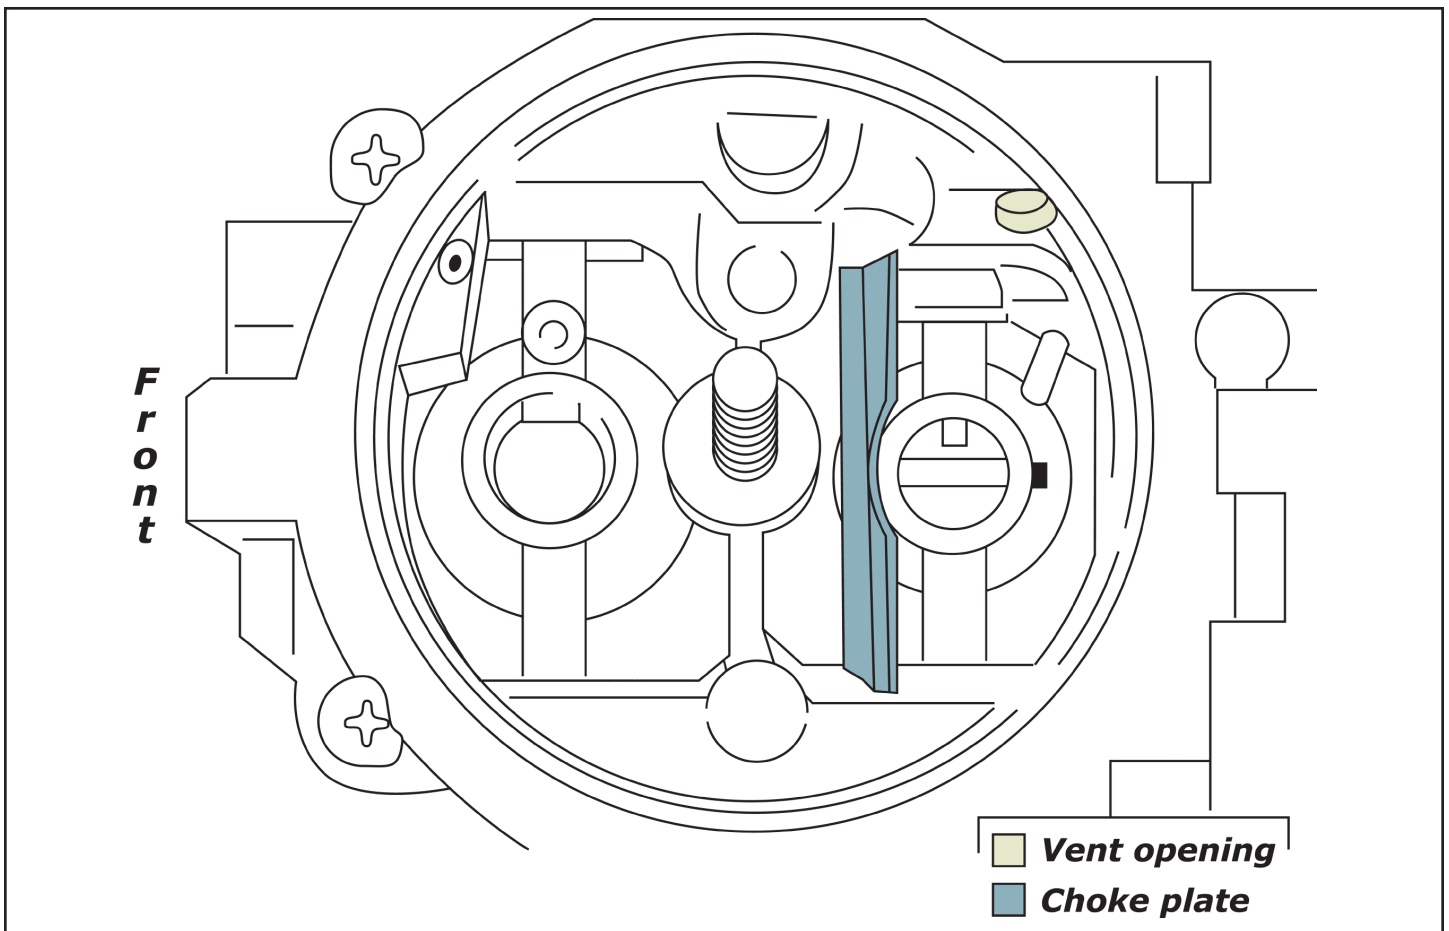

Fig. 1
- 3) Insert Suzuki Vent Tube into custom installation tool so chamfered portion of Suzuki Vent Tube is inside custom installation tool. Using soft mallet, carefully drive Suzuki Vent Tube into Vent Opening (shown in Figure 1) until shoulder bottoms out against carburetor surface. Suzuki Vent tube should be oriented so chamfered portion is facing up when installed.